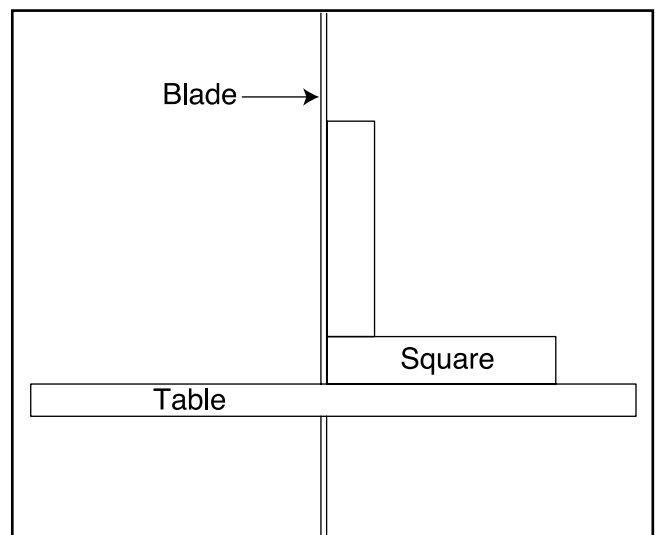

Figure 20. Squaring table to blade.
2. Raise the upper blade guide assembly and place a 6" machinist's square on the table against the blade as shown in **Figure 20**. Notice how far out of square your table is and approximate this distance by adjusting the positive stop up or down. Turning the positive stop counterclockwise will raise it and turning clockwise will lower it. Adjust the positive stop so the table will stop at a 90° angle (square) to the blade.